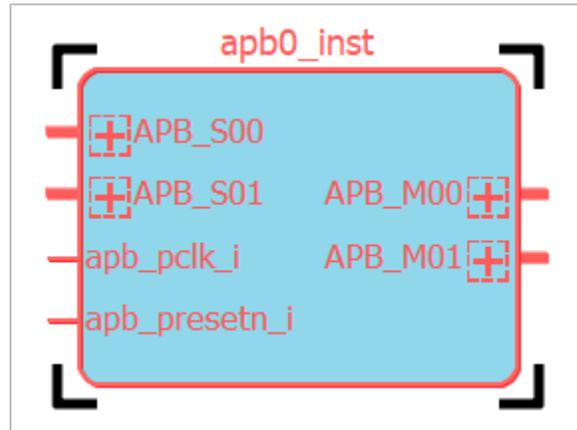

Figure 2.40. Select Module
1. Select the desired module block. The block is highlighted in red with black corners (Figure 2.40).